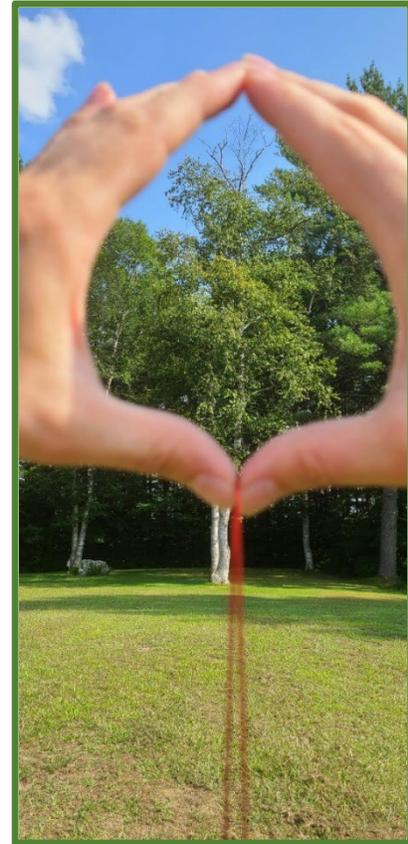

Figure 3.3.16—Determining lean using a hand and plumb bob combination.
- **If using your hands and plumb bob combination**, use your thumbs to hold the plumb bob to eliminate visual error from the hand method (figure 3.3.16).